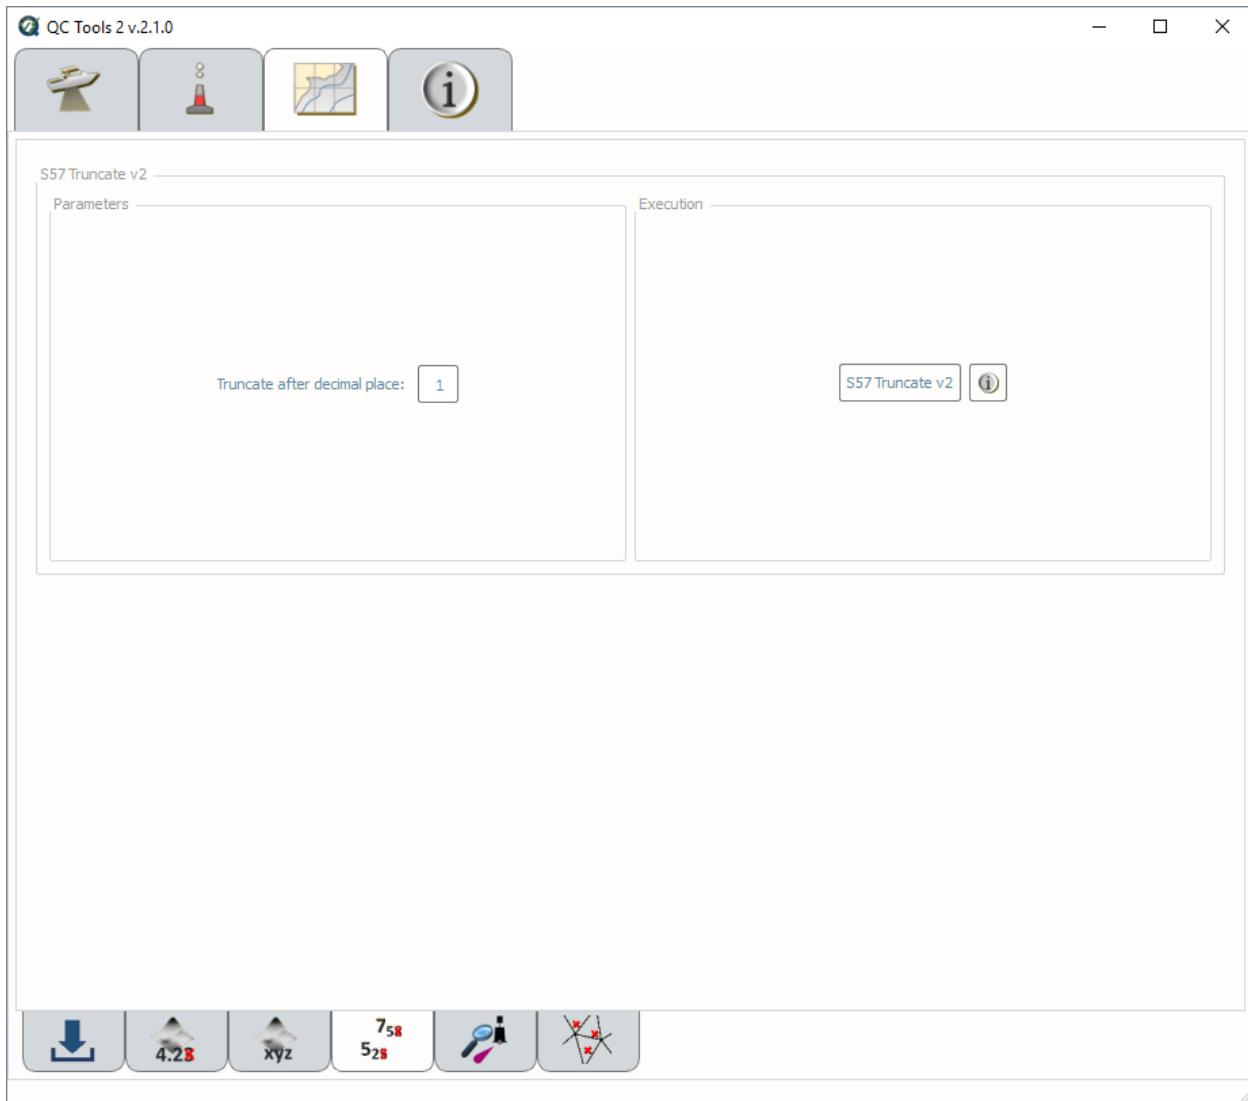

Fig. 2.64: S57 Truncate.
- In **Execution** (Fig. 2.64), click **S57 Truncate v2**.